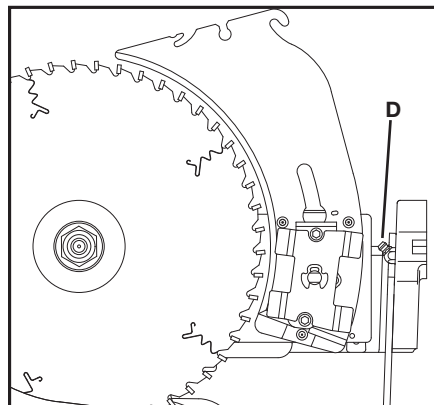

FIG. 82
TRUNNION GREASE FITTINGS: Grease the trunnion at two fittings (one shown at (D) Fig. 82) as needed with a lithium-based grease.